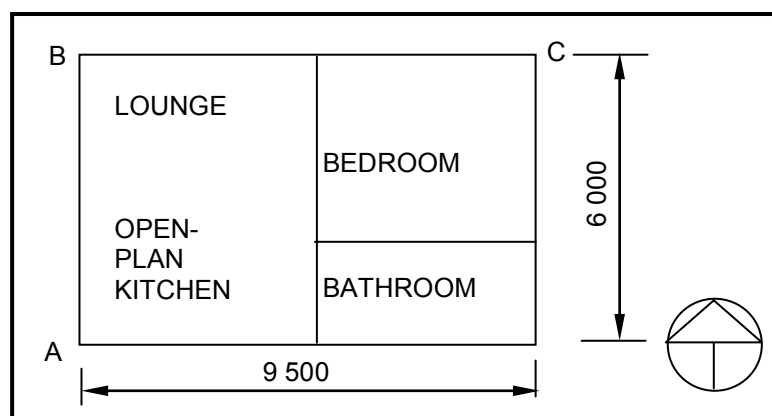

FIGURE 6.1
6.1 FIGURE 6.1 shows a single-line diagram plan of a granny flat.